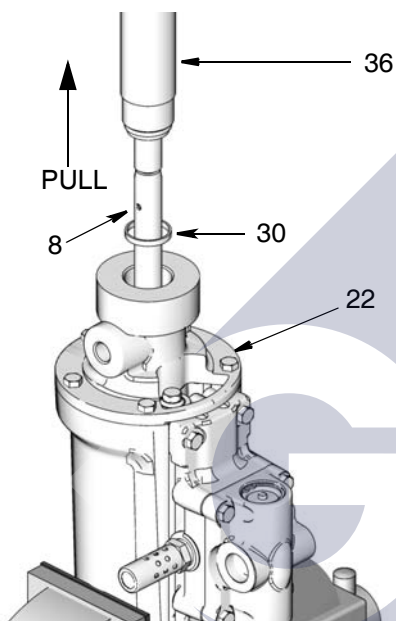

Fig. 6
8. If the gasket (30) is still inside the spacer cylinder (36) use a pick to remove.
9. Secure a strap wrench around the spacer cylinder (36) and use it to turn the cylinder counter clockwise to loosen and remove it from the flange (22) (Fig. 6).